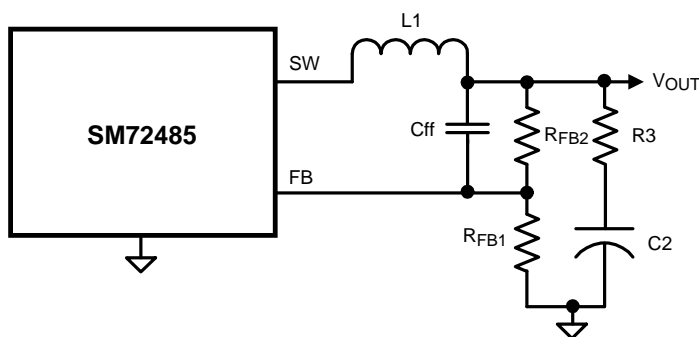

Figure 15. Reduced Ripple Configuration
**a) Reduced ripple configuration:** In Figure 15, Cff is added across RFB2 to AC-couple the ripple at  $V_{OUT}$  directly to the FB pin. This allows the ripple at  $V_{OUT}$  to be reduced to a minimum of 25 mVp-p by reducing R3, since the ripple at  $V_{OUT}$  is not attenuated by the feedback resistors. The minimum value for Cff is determined from: